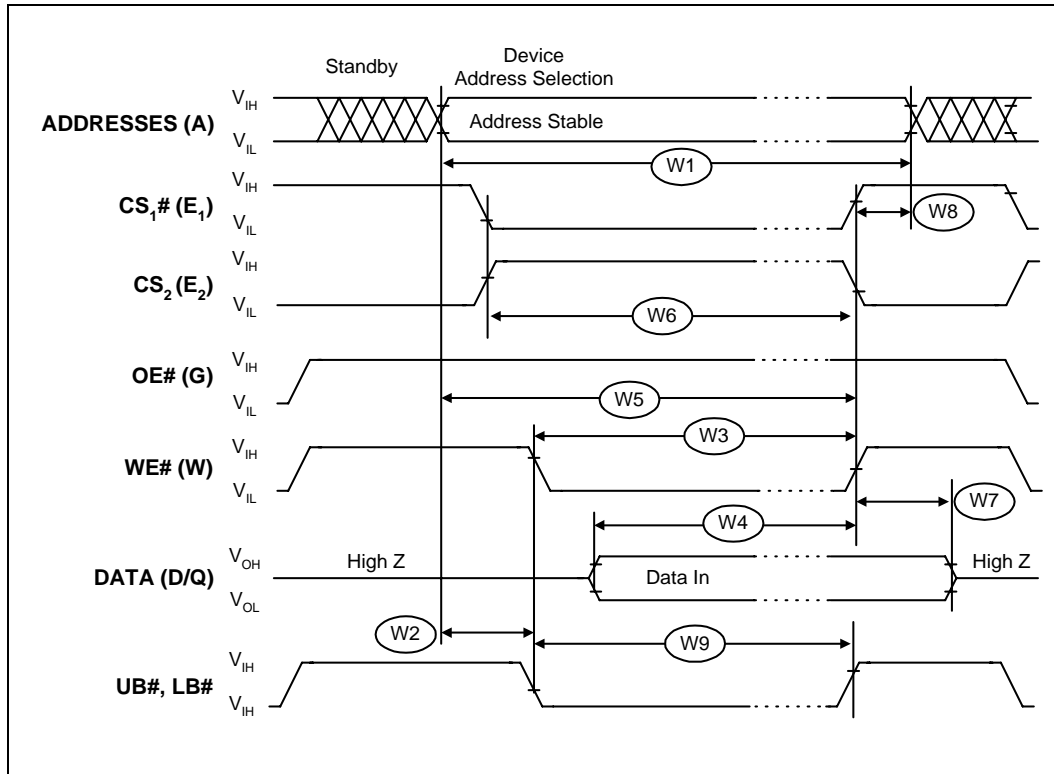

Figure 10. AC Waveform: SRAM Write Operations
1. See Figure 10, *AC Waveform: SRAM Write Operations*